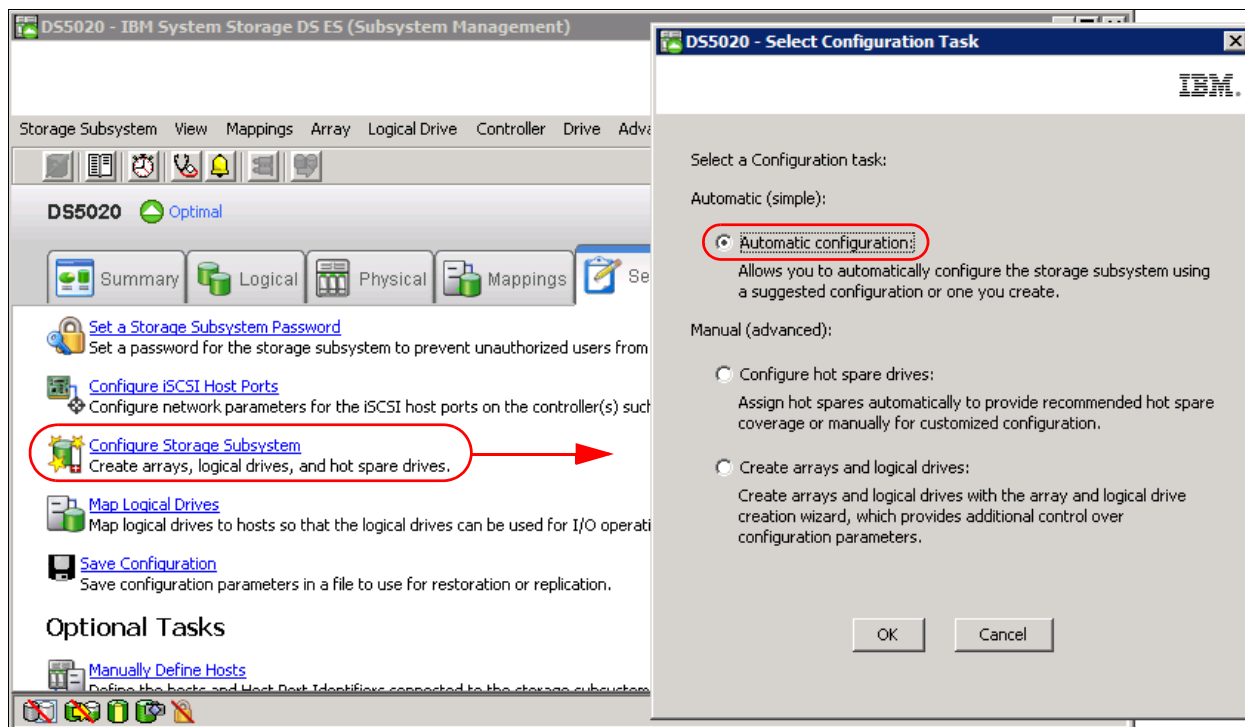

Figure 3-42 Automatic configuration
1. Select **Configure Storage Subsystem** → **Automatic Configuration** → **OK**, as shown in Figure 3-42.